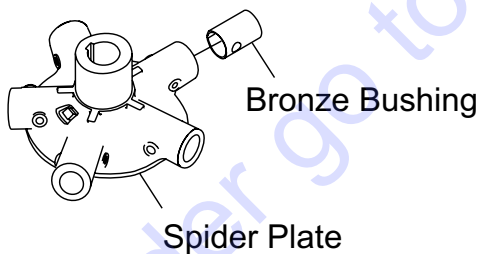

Figure 47. Bronze Bushing
- Should the trowel arm insert (bronze bushing) come out with the trowel arm, remove the bushing from the trowel arm and set it aside in a safe place. If the bushing is retained inside the spider plate, carefully remove the bushing. See Figure 47.
- Examine the bronze trowel arm bushing (Figure 47), and clean it if necessary. Replace the bushing if it is worn or out of round.